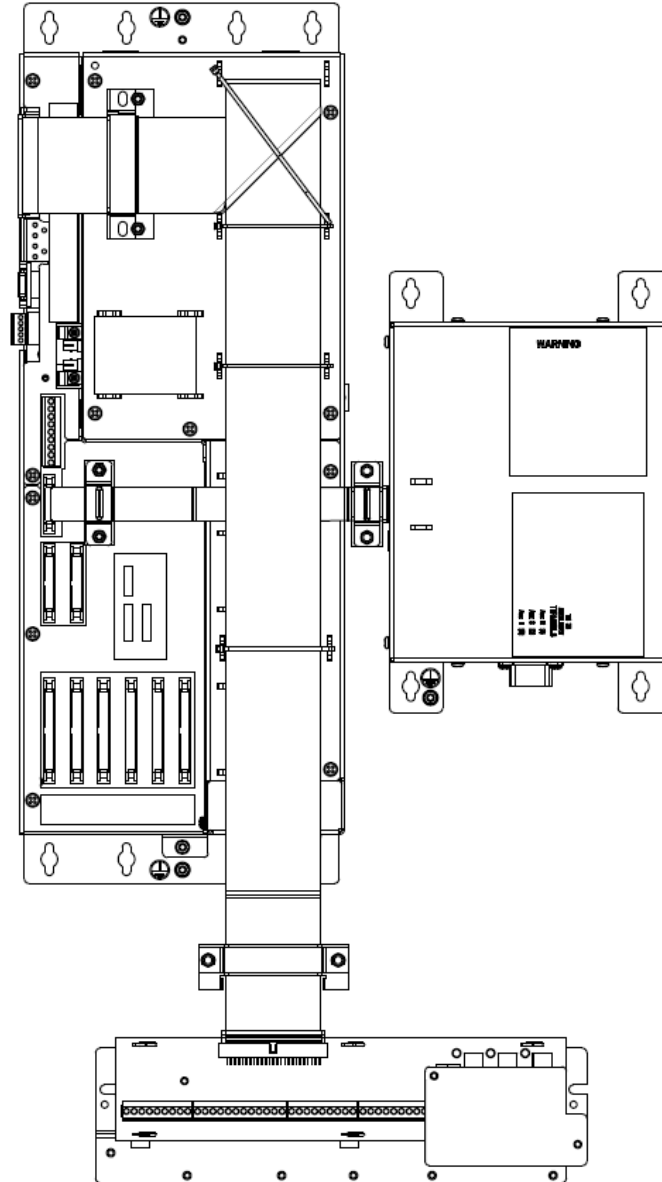

Figure 6-1. – Mounting Schematic
The general arrangement of the Controller, I/O panel and MVM units can be seen in Figure 6-1. – Mounting Schematic.
- k) This unit must be connected to safety earth (ground). If local safety regulations do not permit reliance upon the bonding, as detailed adjacent to Figure 6-1, an additional connection may be made using a wire connected to the MVM unit earth stud. When using the earth stud, wire of a similar size to the mains wiring connected to PL28 should be used unless a larger size is required by local regulations.